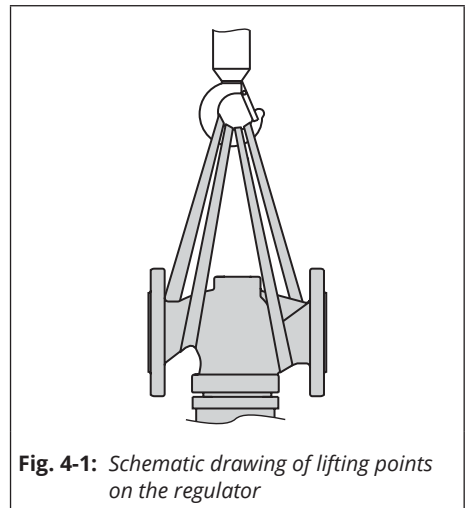

Fig. 4-1: Schematic drawing of lifting points on the regulator
- ➔ Use a hook with safety latch to secure the slings from slipping off the hook during lifting and transporting (see Fig. 4-1).
1. Attach one sling to the body flange and one sling to the rigging equipment (e.g. hook) of the crane or forklift (see Fig. 4-1).